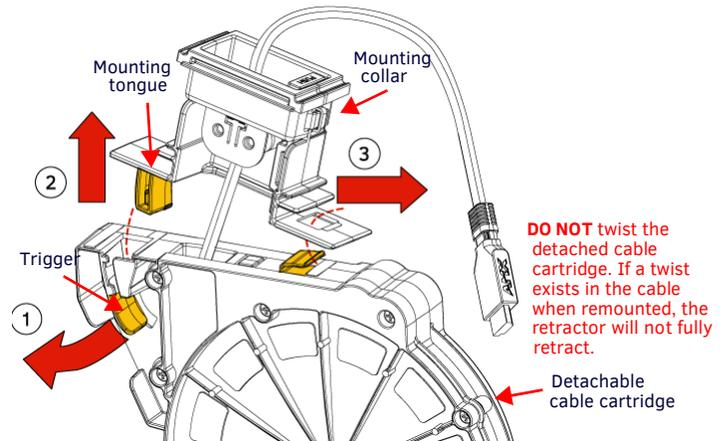

FIG. 4 HPX-AV102-HDMI-R MOUNTING COLLAR REMOVAL
6. Pull the cable cartridge trigger (FIG. 4) to release the mounting collar tongue.
- Push the cable cartridge trigger up onto the mounting collar tongue until it latches (opposite of FIG. 4).
- Detach the cable cartridge from the mounting collar (FIG. 4).